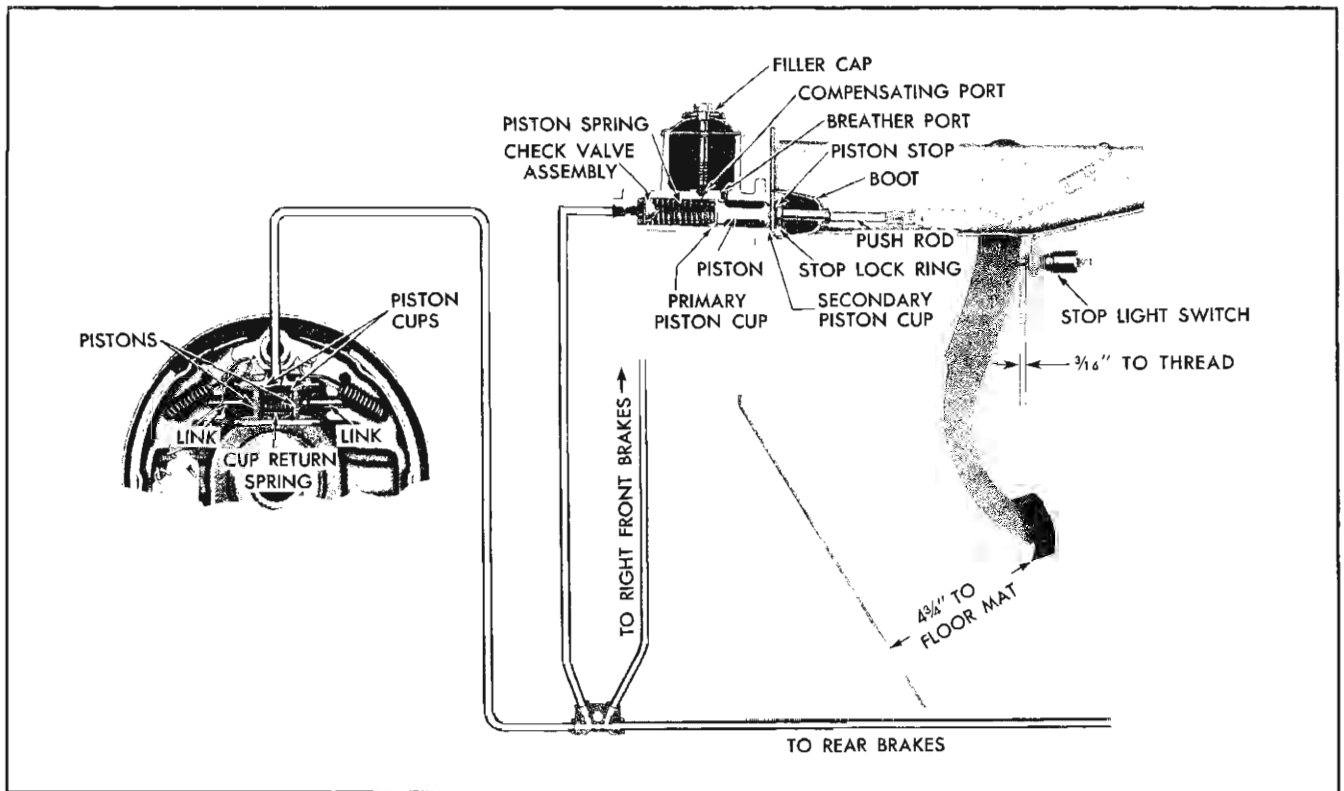

Fig. 5-1 Schematic Diagram of Hydraulic System
### GENERAL DESCRIPTION (Fig. 5-1)
Depressing the brake pedal moves the master cylinder push rod and piston, forcing hydraulic fluid out through a check valve (Fig. 5-1). This fluid flows through the hydraulic lines into the wheel cylinders, forcing the wheel cylinder pistons outward from the center of the cylinder and expanding the brake shoes and linings against the brake drums.
**CAUTION:** *If stop light switch or pedal bracket prevents full return of brake pedal and master cylinder push rod, the master cylinder piston may be prevented from returning to its internal stop. This can block off the compensating port which prevents brake shoes from returning fully when the pedal is released (see Fig. 5-1). A further complication which follows a blocked compensating port, bottom of conical pit, is lining drag and complete brake burn-up on the first prolonged drive. It is necessary that in the released position the primary cup be entirely clear of the compensating port to provide a safety factor against normal rubber swell and expansion and deflection of body parts and pedal linkage.*